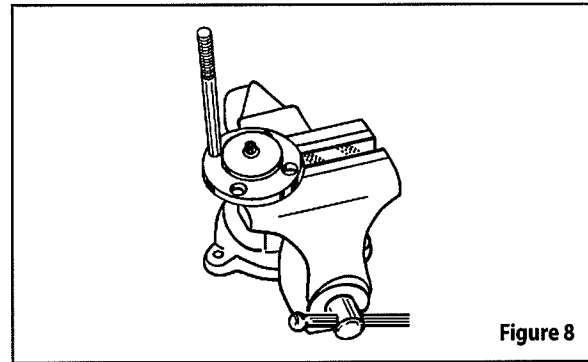

Figure 8
2. Locate the (15) plate over the (14) button.
3. Position the (16) black diaphragm on the (10) screw.
4. Position the (17) white colored diaphragm in the same manner.
5. Thread the (40) valve stem onto the small screw and snug hand tight.
6. Flip the assembly over and place in a vise, locating on the valve stem flats. Use one of the (2) long bolts to align the diaphragms and the plate. The bolt is to help maintain alignment of the diaphragms only at this point (see figure 8).
7. Hold the plate in this position and tighten the (10) small screw into the stem. NOTE: Torque to 65 - 75 in. lbs (7.3 - 8.5 Nm).
9. Place the (18) "O" ring into the base groove.
11. Place the (9) spring and (22) spring stop on the plate.